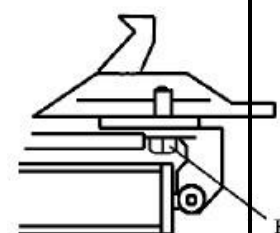

Fig 15
Note: After the first 20 days of use, retighten the jaws with tightening screws (B) on the Turntable (Fig 15)